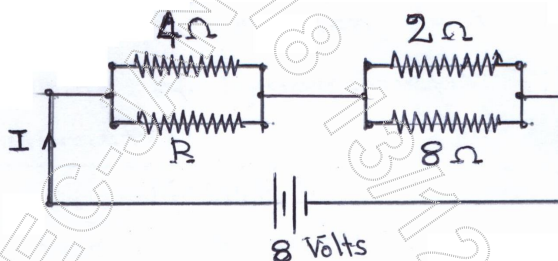

Fig. Q2(b)
- b. The total power consumed by the network shown in Fig. Q2(b) is 16 watts. Find the value of 'R' power dissipated in 'R' and total current. (06 Marks)